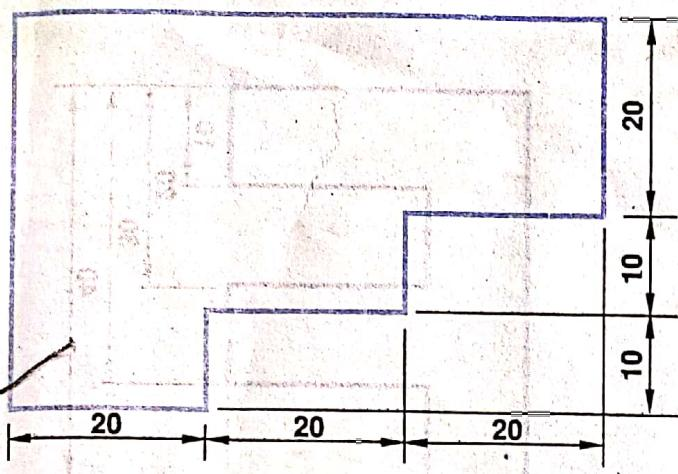

Fig. 3.9 Chain dimensioning
- (i) **Chain dimensioning** : It should be used only where the possible accumulation of tolerances does not endanger the functional requirement of the object. See Fig. 3.9.